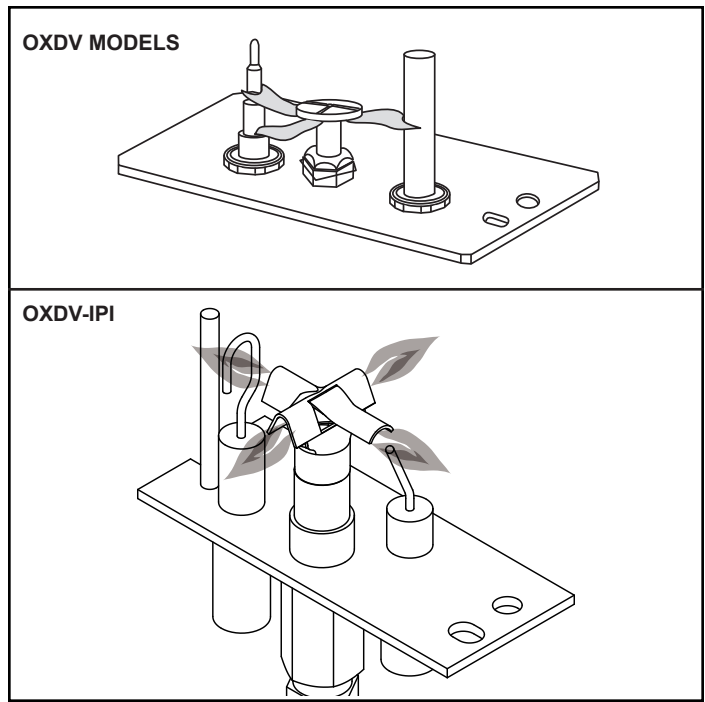

Figure 7.3 - IPI Flame Pattern
To ensure that the stove is operating properly, check the flames periodically to confirm they match Figure 7.3. The flames will be blue during the first 15-20 minutes of operation, and will gradually turn to yellow after that.
- Inspect pilot flame pattern and strength. See Figure 7.3 for proper pilot flame pattern. Clean or replace orifice spud as necessary.